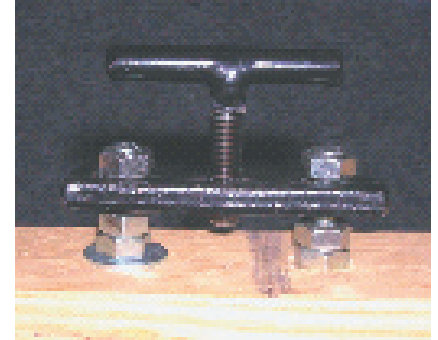

Figure 1
1. On the side of each handle, take off the two top nuts only and remove the T-shaped tightener plates (Figure 1).